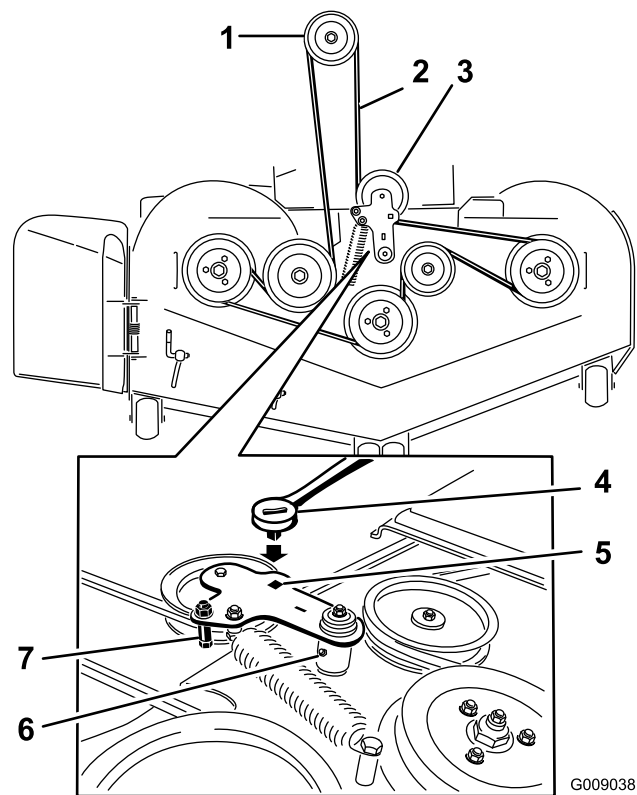

Figure 89
5. Use a ratchet in the square hole in the idler arm to remove tension on the idler spring (Figure 89).
7. Remove the belt guide on the spring-loaded idler arm (Figure 89).
9. Install the new belt around the mower pulleys and the clutch pulley under the engine (Figure 89).
10. Install the belt guide on the idler arm (Figure 89).
11. Using the ratchet in the square hole, install the idler spring (Figure 89).